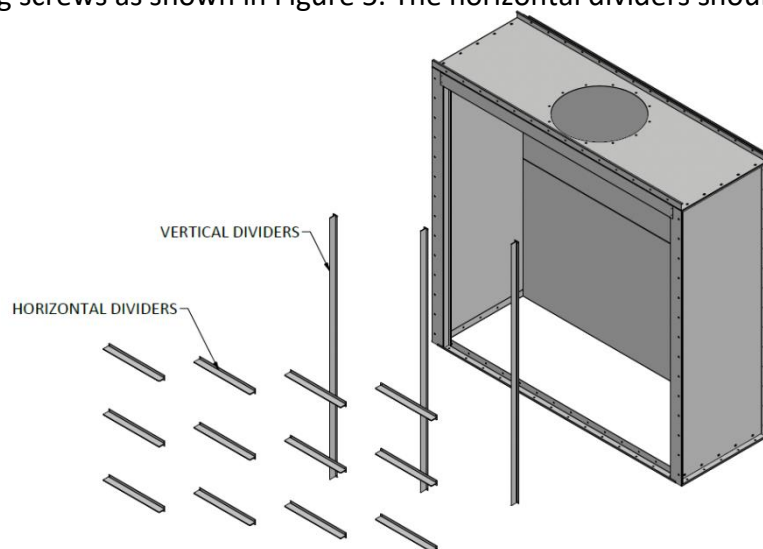

Figure 5 - Assembly of Filter Gridwork
- Fasten the vertical dividers to the floor trim and horizontal plenum panel using four #8-18 X 1/2 self-drilling screws as shown in Figure 5. The vertical dividers should be installed every 20” on center.
- Fasten the horizontal dividers to the vertical plenum panels and vertical dividers using four #8-18 X 1/2 self-drilling screws as shown in Figure 5. The horizontal dividers should be installed every 20” on center.